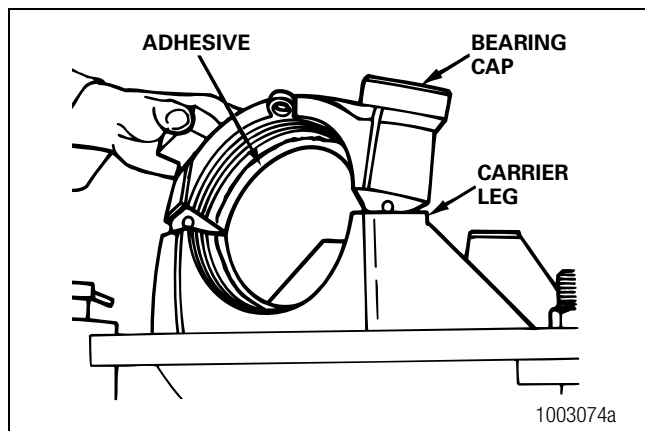

Figure 5.25
3. Apply Meritor specification 2297-T-4180 adhesive into the bearing bores of the carrier legs and bearing caps. To obtain this adhesive, refer to the Service Notes page on the front inside cover of this manual. Don't allow adhesive to contact adjusting ring threads. Refer to Section 4. Figure 5.25.